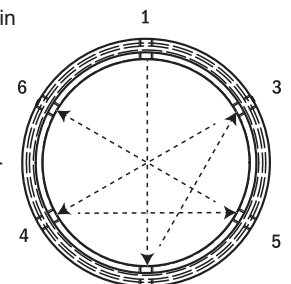

Figure 7
- 4.) Install the shear screws in the sleeve in an alternating star-type pattern using minimal hand-tight torque. Do not over-tighten. See Figure 7.